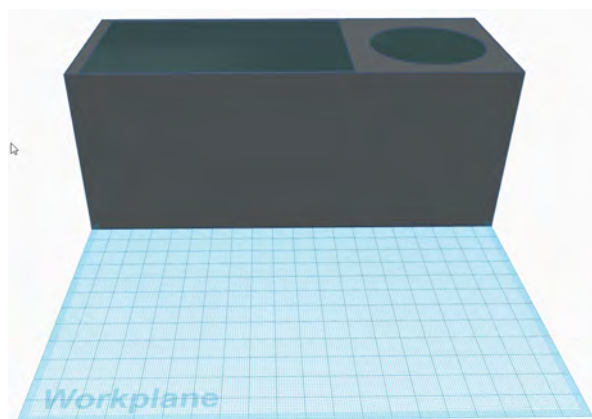

Figure 15.5: Tinkercad Cylinder Placement
21. Place it next to the inner box and set it 5mm above from the plane. Make outer box **solid**. Now your setup should be similar to as shown in Figure 15.5.